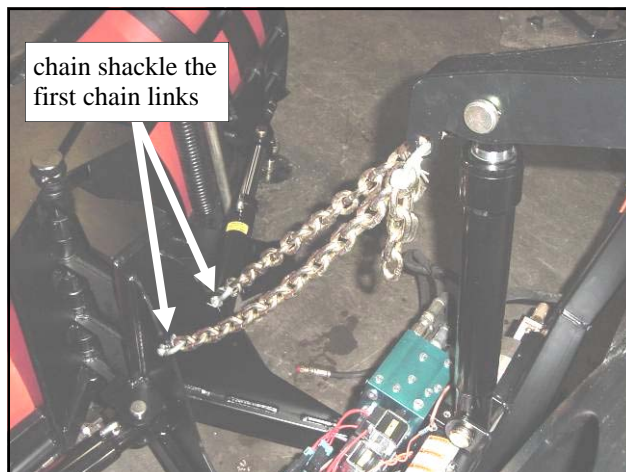

Fig. 8.1 (view from driver's side)
8.1 Using the supplied chain shackles, attach the very first link on one end of each length of chain to the hole provided in the A-Frame vertical plate as shown in figure 8.1. The excess chain links will be towards the main middle lift cylinder as shown.
8.2 Per fig. 8.1 and with assistance, rotate the entire lift frame assembly forward towards the moldboard assembly while rotating and guiding the upper and lower spring cans and springs to come together as a closed unit (i.e.: the exposed portion of the large spring will be inside the large upper spring can).
8.3 Per fig. 8.1, have an assistant push the lift frame assembly forward (lean into it) to collapse the springs a little. At this time, use the last two chain shackles to connect the chains to the slots in the lift arm as shown. Select the link that will make the chain as short as possible (a little slack is okay). The chain may need adjusting once the cylinder is put through it's range of motion several times so leave the last two cotter pins in the upper chain shackles in place but not bent over yet. Reference: step 12.4 on page 14 is when the final chain length will be determined.